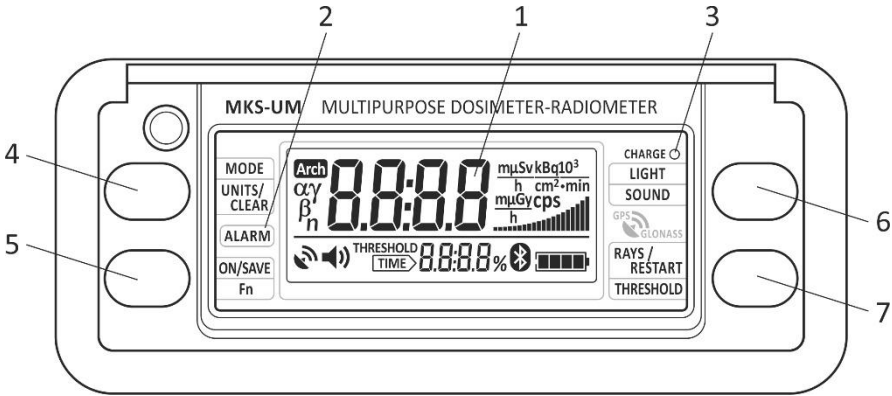

Figure 2.10 – Front panel of the control unit
2.3.3.1 The dosimeter is regulated with the help of four buttons (4), (5), (6), (7) according to Figure 2.10.